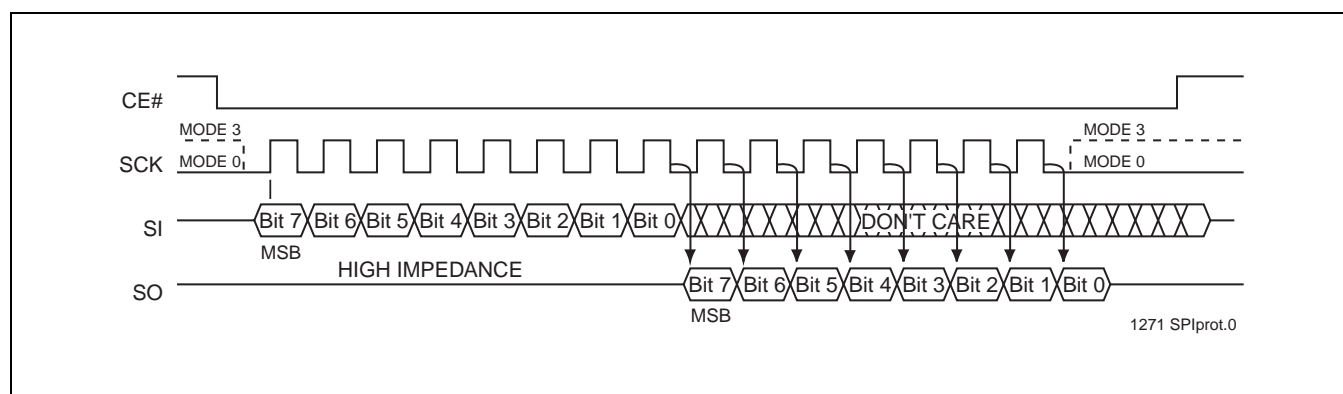

FIGURE 2: SPI PROTOCOL
The SST25VF016B supports both Mode 0 (0,0) and Mode 3 (1,1) of SPI bus operations. The difference between the two modes, as shown in Figure 2, is the state of the SCK signal when the bus master is in Stand-by mode and no data is being transferred. The SCK signal is low for Mode 0 and SCK signal is high for Mode 3. For both modes, the Serial Data In (SI) is sampled at the rising edge of the SCK clock signal and the Serial Data Output (SO) is driven after the falling edge of the SCK clock signal.